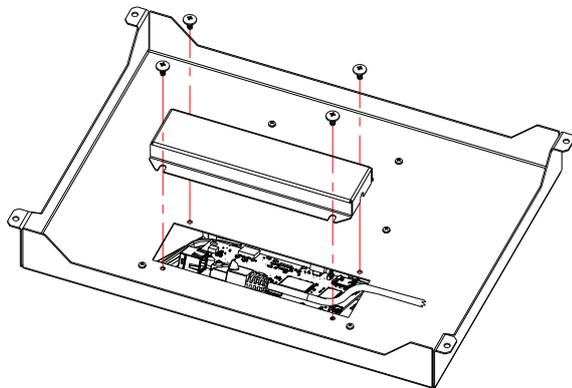

Figure 19
- 2) Remove the four retaining screws of the metallic display support (Figure 19).